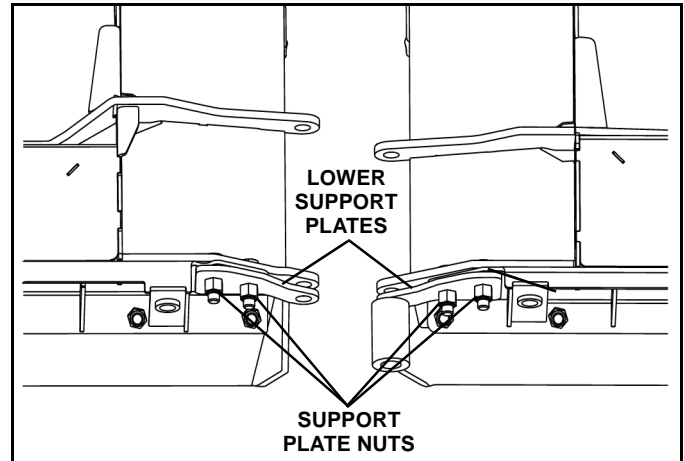

Figure 1-5
6. To aid in the pin installation as the blades are installed, loosen two nuts securing each lower support plate to the DS and PS wings. (See Figure 1-5).